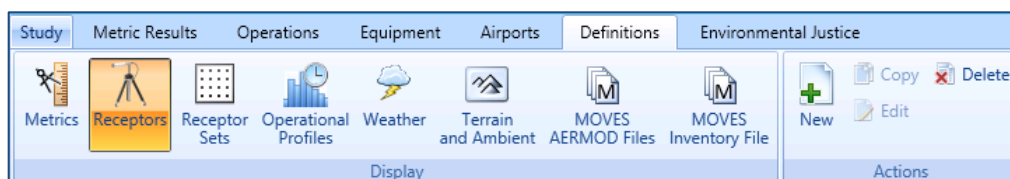

Figure 15. Definitions Tab – Receptors
1. Click the *Definitions* tab, then click *Receptors* (Figure 15).